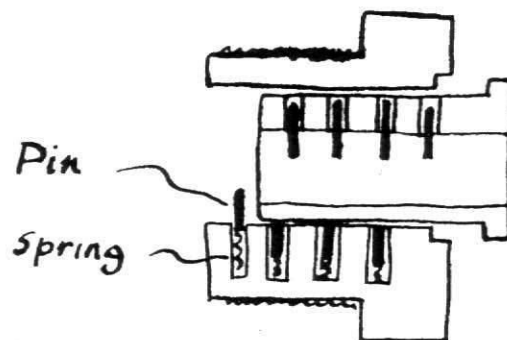

FIG. 3
- 6 Slowly withdraw inner barrel and watch the pins and springs in the bottom (fig.3)